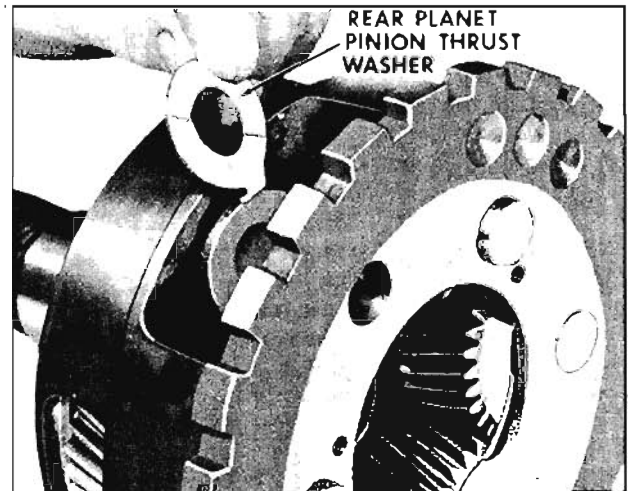

Fig. 6-391 Removing Rear Thrust Washer
- Remove rear planet pinion thrust washer. (Fig. 6-391)